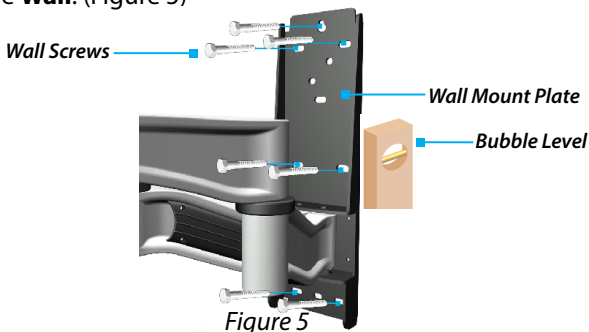

Figure 5
9. Insert the rest of the **Wall Screws** (x 6) through the **Wall Mount Plate**. Tighten all the **Wall Screws** (x 7) with the **1/2 in (13 mm) Wrench** to fasten the **TV Wall-Mount Assembly** to the **Wall**. (Figure 5)